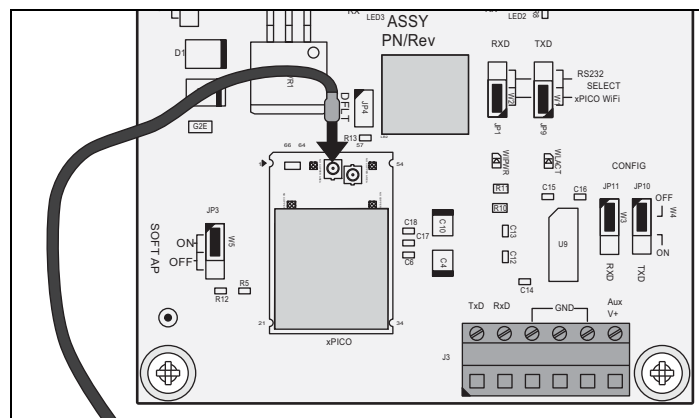

Figure 2. Antenna Connection Location
7. Connect the u-FI end of the antenna cable to the Antenna 1 connection on the WiFi module (Figure 2).